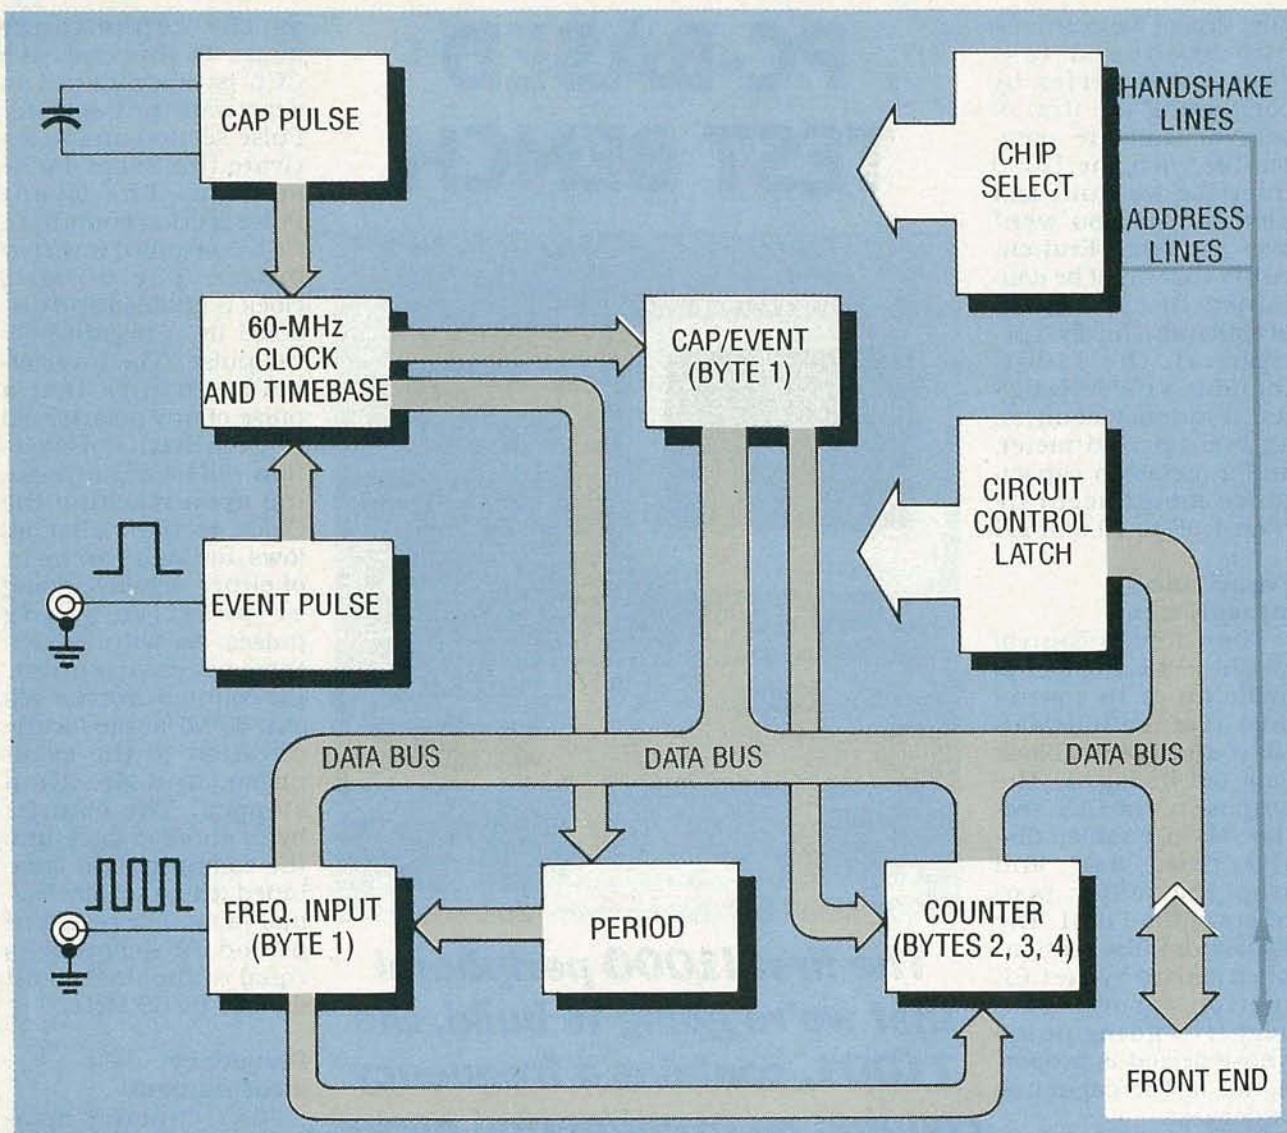

FIG. 1—T1001 BLOCK DIAGRAM. This peripheral contains a 100-MHz digital frequency counter, an event/period meter, and a precision capacitance meter.
1. *High-frequency (HF) allocations.* Figure 1 shows the additional frequency allocations made for high-frequency broadcasting. Four conditions were imposed on those allocations:
2. *Satellite sound broadcasting (BSS):* The issues here produced a genuine tug-of-war. The conference was divided from the outset on allocation of frequencies. Most Europeans wanted the more economical and propagationally suitable L-Band, with an allocation around 1.5 GHz. However, the U.S. was firmly opposed to that allocation because military aeronautical services are now operating in that band. The U.S. wanted the allocation in the S-band, around 2.3 GHz. Other countries, notably, China, Russia, Japan, India, and Pakistan, wanted the BSS allocation to be around 2.5 GHz. (See Fig. 1)
3. *High-definition television (HDTV)*. This service ran into problems similar to those encountered in BSS, and there was no agreement on worldwide allocations. Instead, Europe, Africa, and Asia will use the 21.4- to 22-GHz band, and the Americas will use the 17.3- to 17.8-GHz band. Feeder links will be in the 18.1- to 18.4-GHz band in the Americas, and 24.25- to 25.25-GHz band elsewhere. (See Fig. 1) These bands will become available on April 1, 2007.
The Circuit Control Latch section (CCL) is made up of 16 control lines that are individually routed to every block depicted in Fig. 1. The purpose of the CCL section is to enable, disable, reset, start, and stop the major processes of the T1001. The Capacitor Pulse section, when started by the CCL section, produces a negative-going pulse whose period is proportional to the capacitor under test.